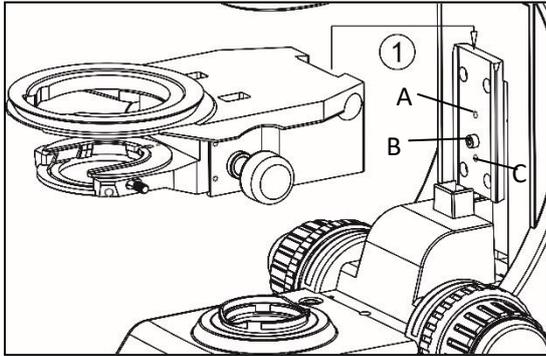
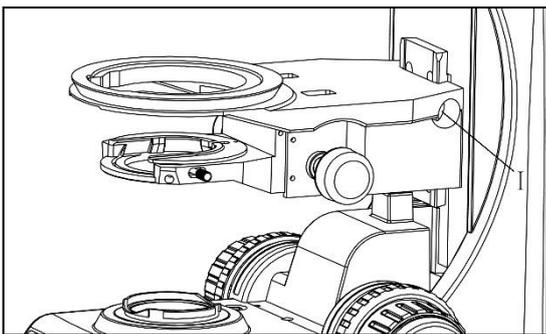

Fig.1
Fig.2
### 4-2-1 Mechanical carrier stage bracket installation (Fig.1, 2)
- ★ Rotate the coarse focusing wheel so that the dovetail of the frame rises until the limit screw exposure end face as shown in the figure, then install the stage bracket according to the path of serial number "C" in Fig.1. Align the dovetail groove of the stage bracket with the dovetail bulge of the rack in Fig.1, slide down naturally until lower level screw is limited. Then the screw of num1 in Fig.2 is screwed inward with a wrench.